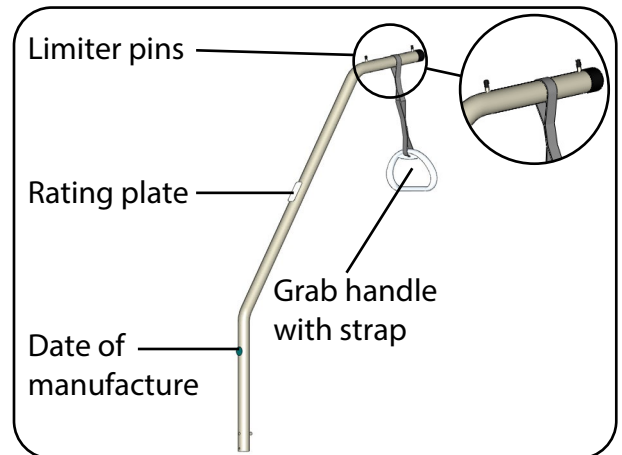

Fig. 6.5.02 – Uplifter with grab handle and strap
4. Position the strap's loop between the two limiter pins on the uplifter (Fig. 6.5.02).